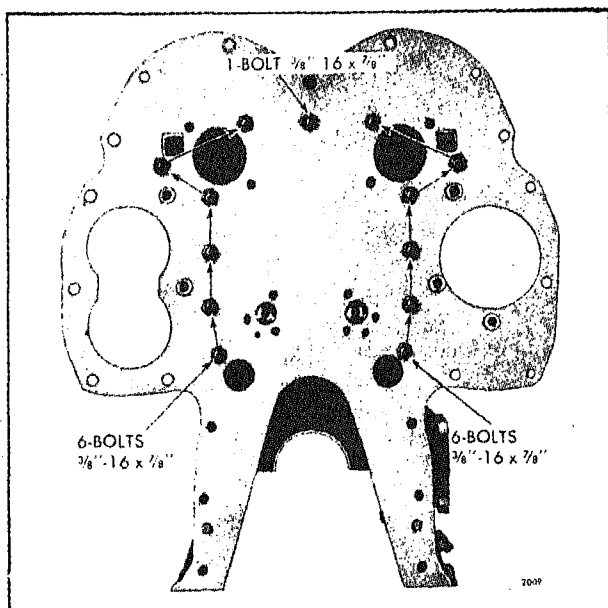

Fig. 1 - Cylinder Block Rear End Plate Mounting (In-Line Engine)
3. On In-line engines, refer to Fig. 1 and install the 3/8 "-16 x 7/8 " bolts with lock washers. Tighten the bolts to 30-35 lb-ft torque.